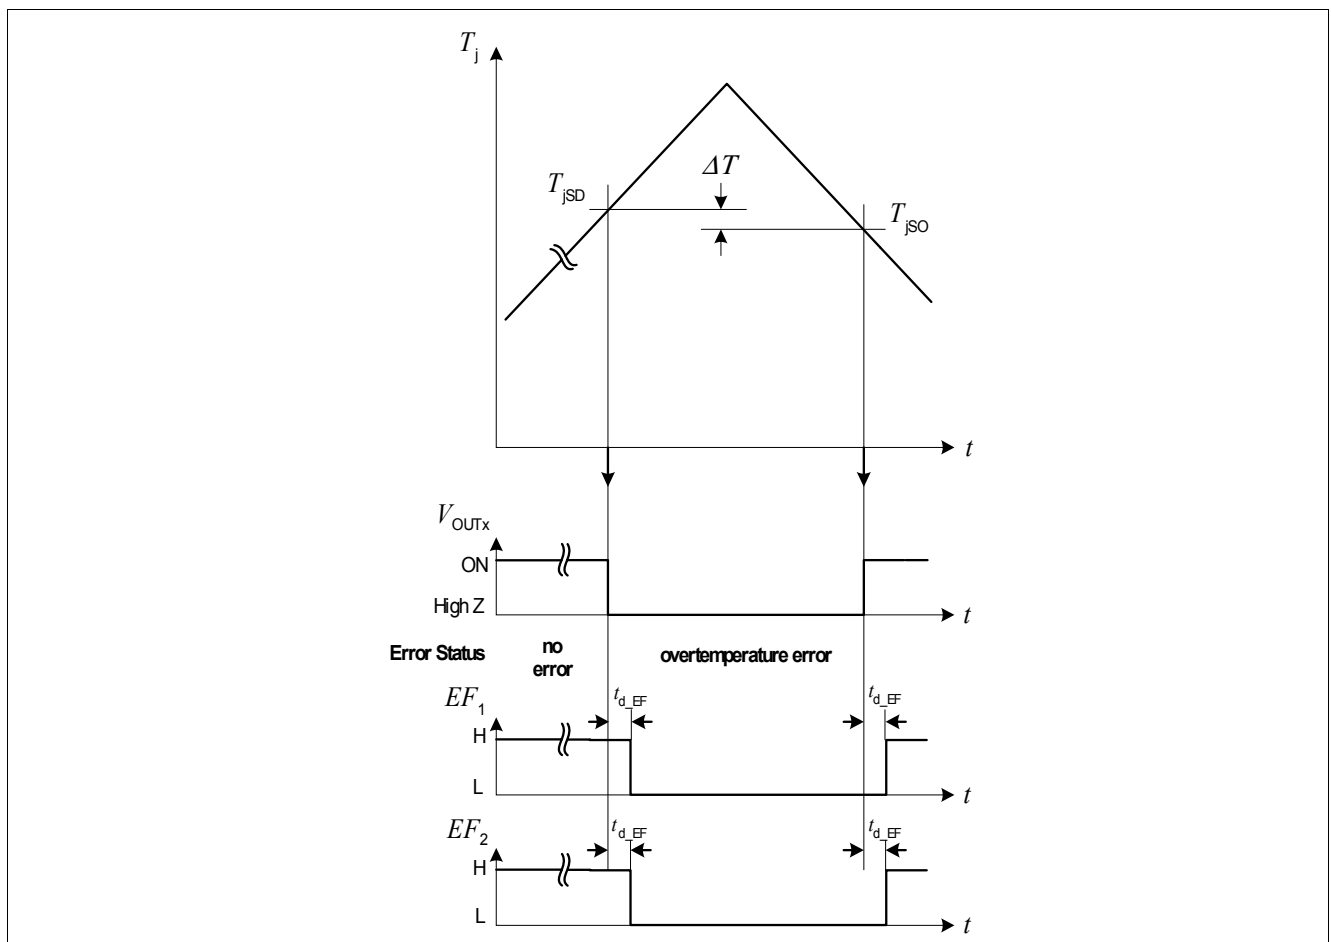

Figure 8 Overtemperature signalling
- b) **Over Temperature:** At a junction temperature higher than the thermal shutdown temperature T_{JSD} (typ. 175°C) the device enters thermal shutdown which turns-Off all four output stages simultaneously and the corresponding Error Flags are set with a delay. After cooling down to the thermal switch-on junction temp T_{JSO} the device will auto restart. A thermal toggle behavior can be observed (the Error Flags and output stages will be modulated by the thermal time constants; Figure 8).
Temperature sensors are integrated in the power stages. Each half bridge (HS+LS) is equipped with one temperature sensor. The temperature monitoring circuit compares the measured temperature to the shutdown thresholds. If one or more temperature sensors reach the shutdown temperature T_{jSD} , the overtemperature Error Flag is set to LOW. This Error Flag is not latched (i.e. if the temperature falls below the switch on threshold T_{jSO} , the Error Flag is automatically reset to HIGH again). This is shown in Figure 8 below.